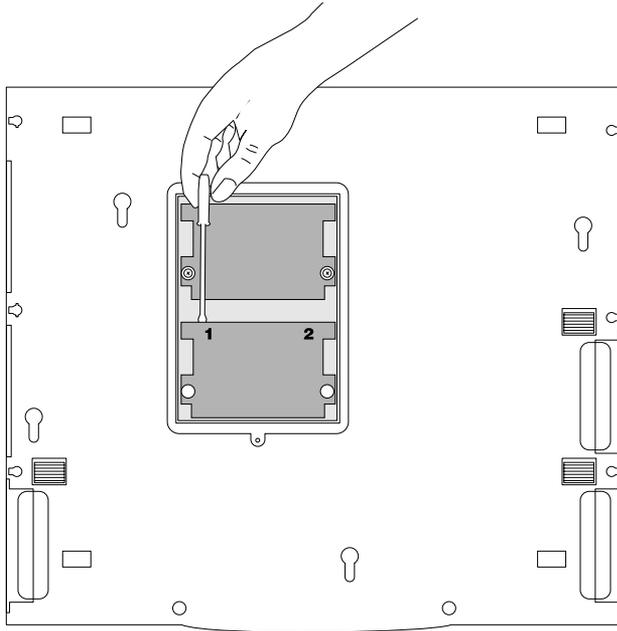
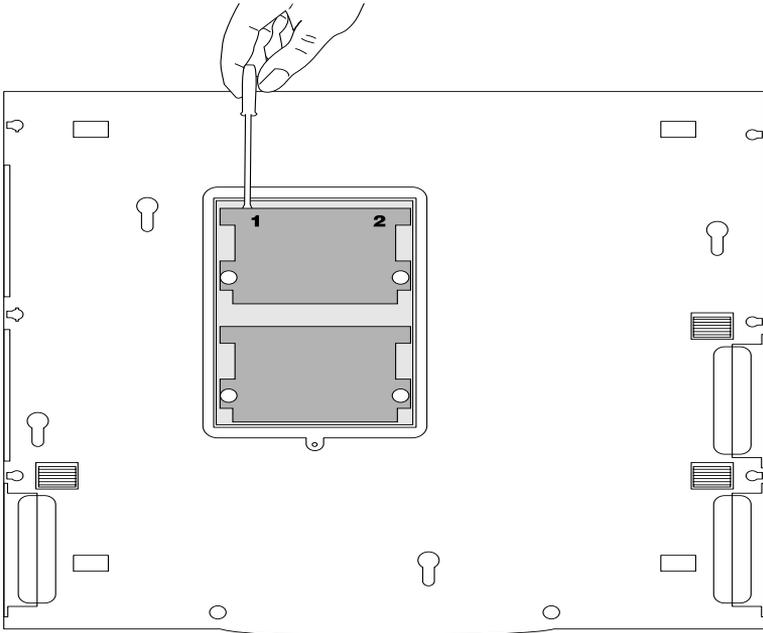

Figure 3-12 Removing the Secondary Memory Module
Figure 3-13 Removing the Main Memory Module
- b. Using a small flat-tip screwdriver, pry gently upward against the outer edges of the system's memory module, as shown in Figure 3-12.
Caution: Pry gently upward at the leverage points shown in Figure 3-12 and Figure 3-13 or you may damage your memory modules or the main system board and void your system warranty. The leverage points are numbered and you must pry gently upward in the order shown to remove the memory modules without damaging them.
- d. (Optional) Using a small flat-tip screwdriver, pry gently upward against the outer edges of the system's memory module until the memory module is free of its RAM connector, as shown in Figure 3-13.